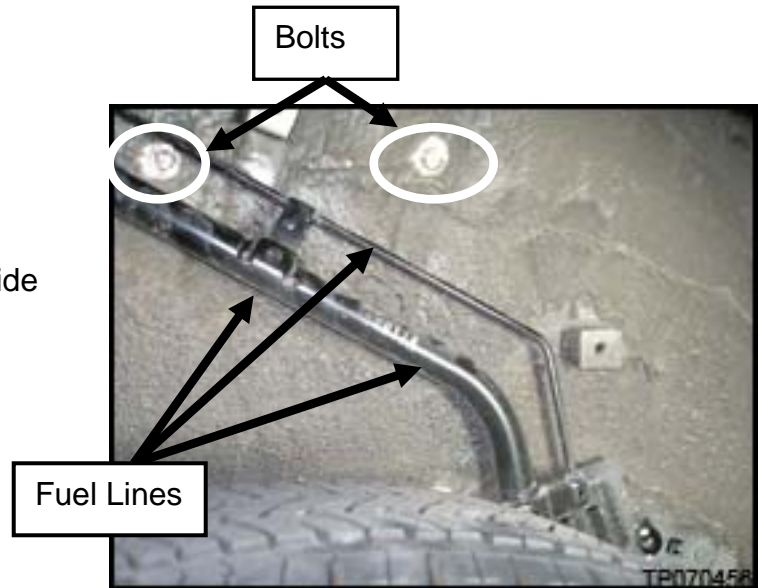

Figure 3
**CAUTION:** Make sure not to disturb the exposed fuel lines. See Figure 3.
- Repeat steps 1, 2, and 3 for the right side (see Figure 3).